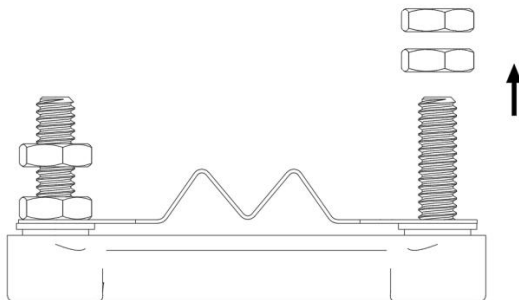

Figure 1
Step 1 Remove two nuts from one side of the Isolation Link (Figure 1).